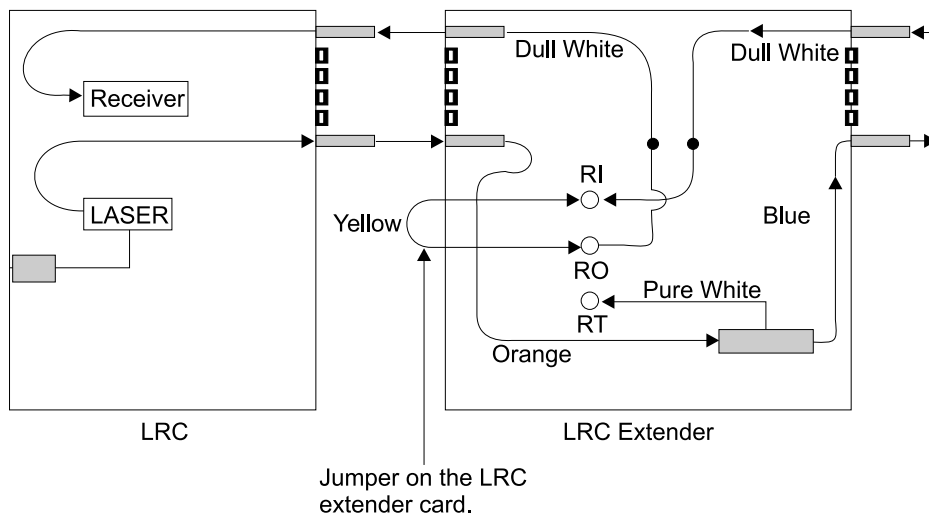

Figure 10. Laser Adjustment Setup
- 6 Install the LRC on the channel where the received power must be measured onto an extender card as shown in Figure 10.